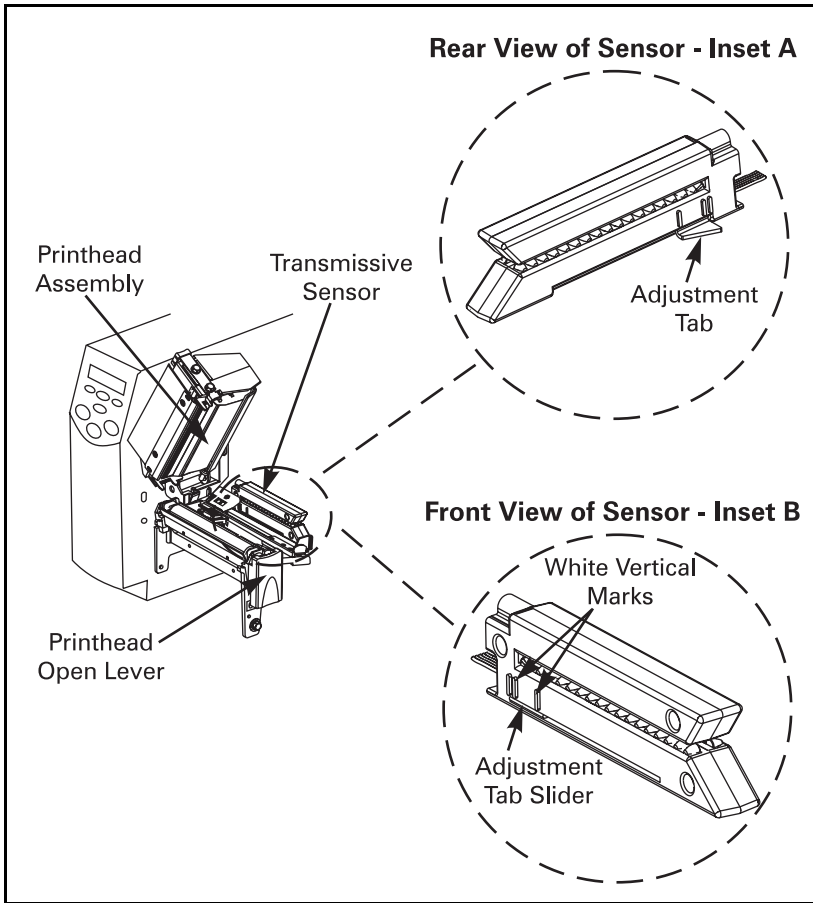

Figure 7
Refer to Figure 7.
2. Locate the white adjustment tab on the lower back of the adjustable transmissive sensor (see Figure 7-inset A).
3. While holding the adjustment tab, locate the adjustment tab slider on the lower front of the adjustable transmissive sensor (see Figure 7-inset B).